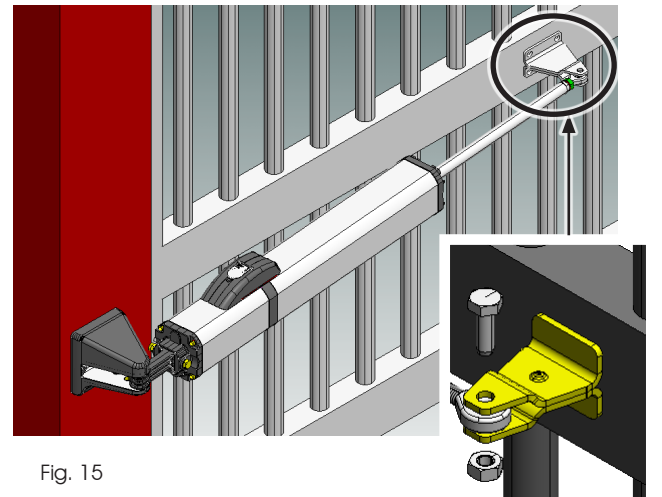

Fig. 15
15. Secure the operator to the front bracket (Fig. 15).